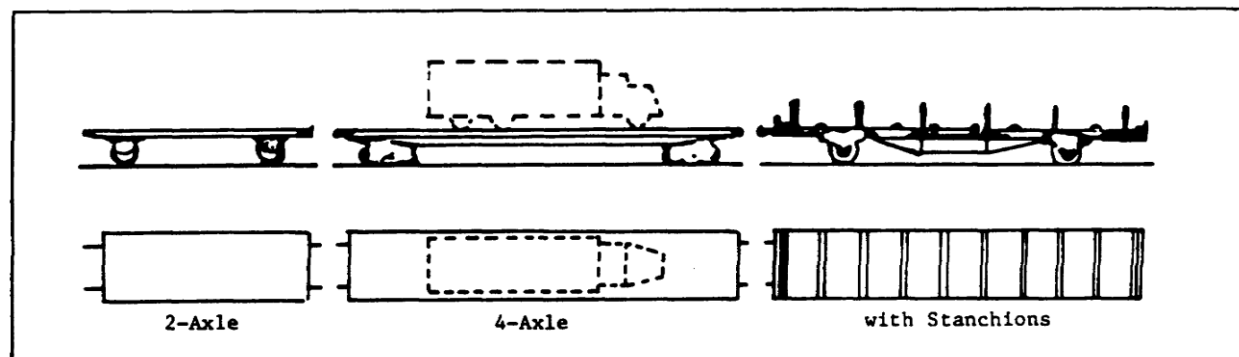

Figure 1-41. Flatcars.
e. Flatcars are used for transporting heavy or large equipment. They may have bolsters (clamp fasteners for cables or chains) or stanchions (upright braces) on them. Well cars are similar to flatcars except the bed between the wheels is lowered to handle heavy or large loads (Figure 1-41).